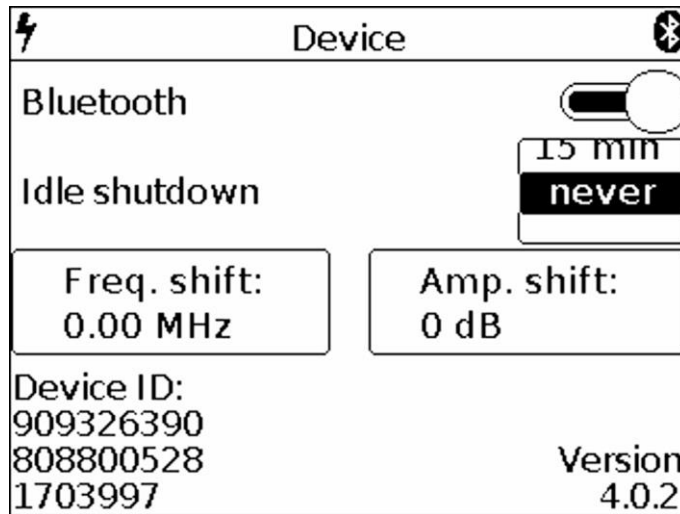

Figure 23 – Parameters of connecting to the device external attenuators or frequency converters
7.9.1. To insert correction of frequency or amplitude when using **external attenuators or frequency converters**, go to the main menu (figure 6) by pressing the «MENU» button (14) and select the **Device** subsection. The setup menu appears, as shown in figure 23.
8.2.4. Enter the main menu of the device by pressing the «**MENU**» button (14) (Figure 6) and select the **Device** subsection and turn on the data transfer using the Bluetooth protocol by moving the “slider” to the right, as indicated in section 7.9.2. (Figure 23).